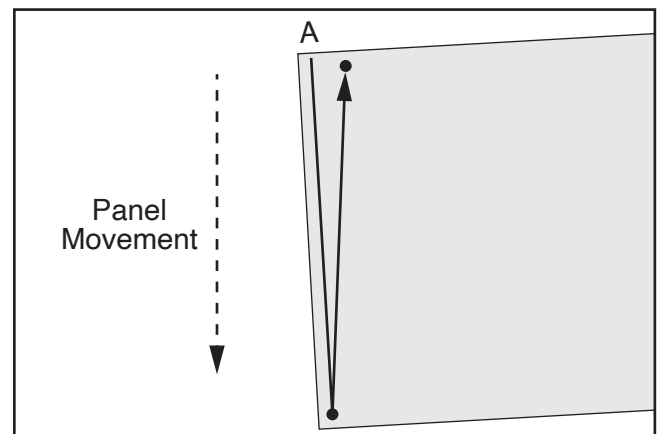

Figure 24. Wheels moved to next point.
4. Pull workpiece back until it reaches next point near far edge, as shown in **Figure 24**.